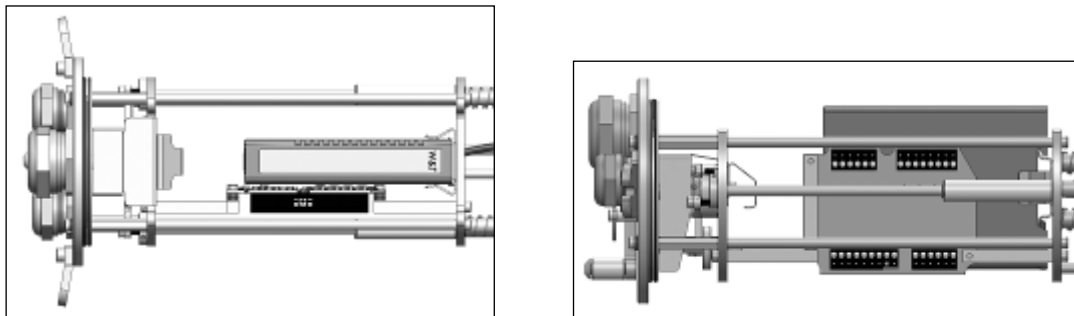

Figure 46 (a + b): Fitting the USB server Gigabit into the chassis (top view and right hand view)
6. Engage the USB server Gigabit to the DIN rail plate (**Figure 46**).